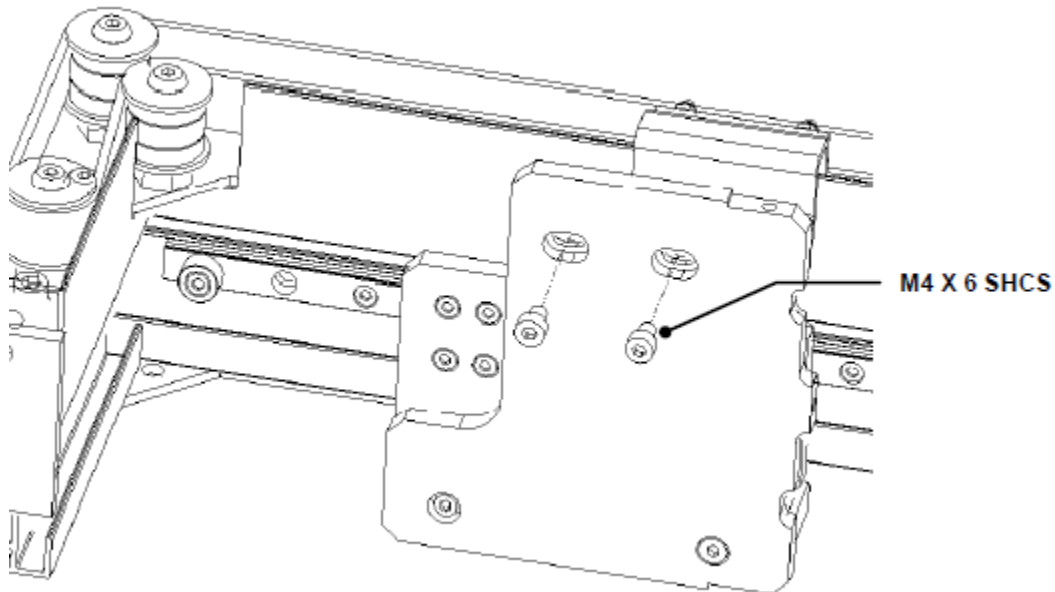

Figure X-13: Belt Bracket Front
1. Remove the Belt Bracket Front from the Y Drive Plate Front (Figure X-13).